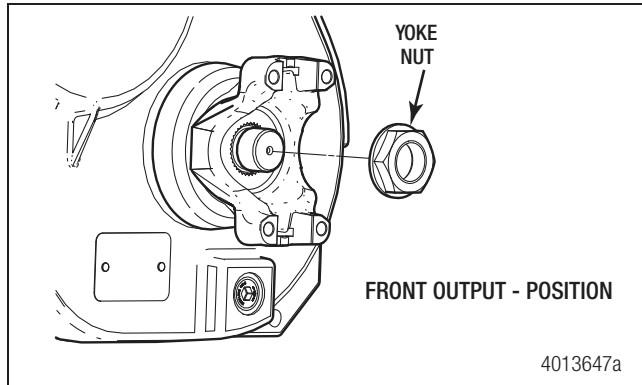

Figure 4.30
1. Use a yoke holder to secure the yoke from turning. Remove the yoke locknut from the front output shaft. Figure 4.30.